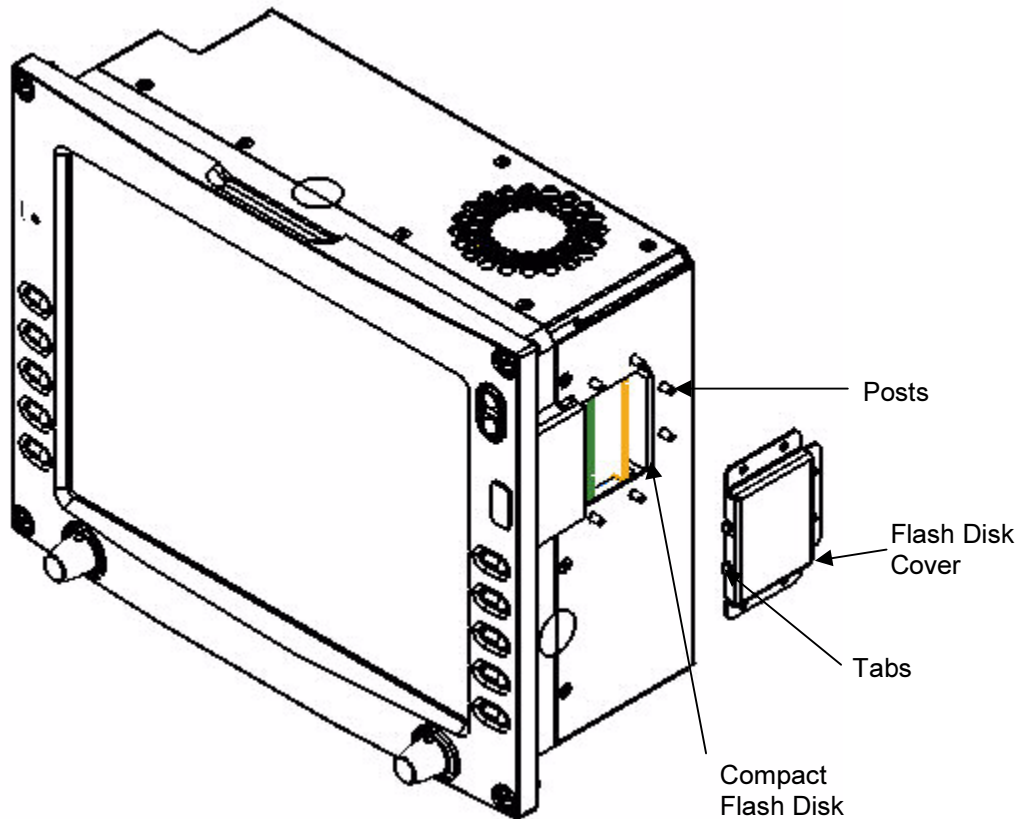

Figure 1: EX5000C with Compact Flash Cover
This procedure should be performed on the bench. Ensure NO power is applied to the unit. Refer to Figure 1.
2. Remove the 530-00112-000 Rev XX (See effectivity/compatibility) compact flash by pulling it from the connector and sliding it out (as shown in Figure 1).